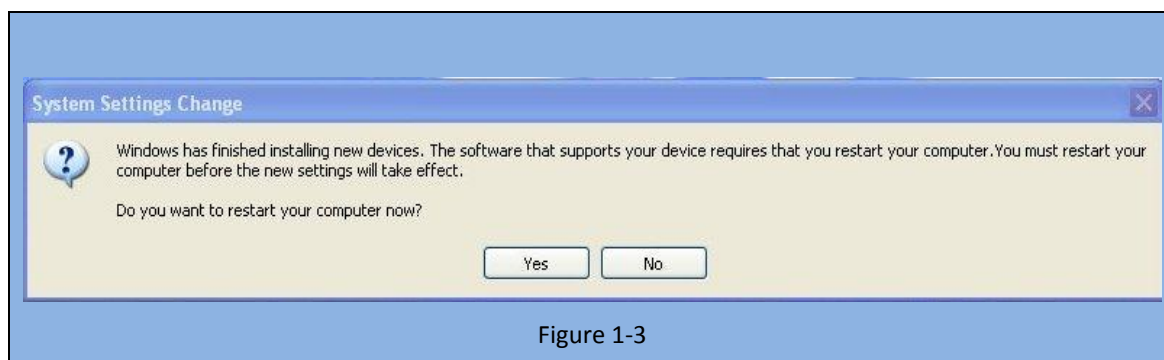

Figure 1-3
6. Click Finish and tell the system to restart now. (Figure 1-3).